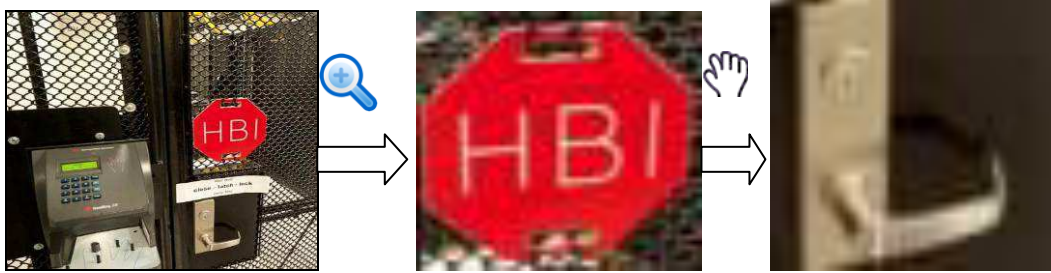

Figure 4-35
- Put the middle button at the centre of the zone you want to zoom in, and move the mouse, you can view an interface shown as in Figure 4-35.